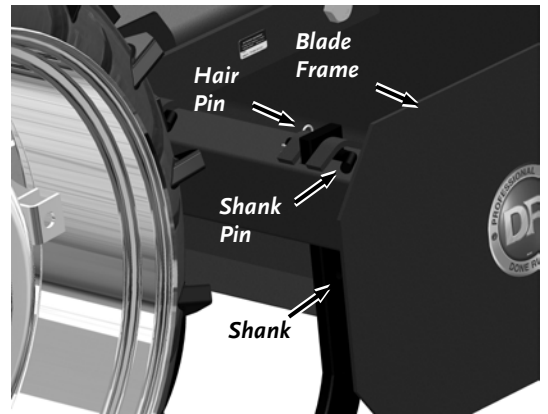

Figure 12
1. Remove the Wire Hair Pin and Shank pin that hold the Shank to the Blade Frame (**Figure 12**). Slide the Shank up or down to adjust the scarifying tooth penetration depth and Secure with the Shank with the Shank Pin and Wire Hair Pin. Be sure to keep all of the Shanks at the same Depth
1. Remove the Wire Hair Pin and Shank pin that hold the Shank to the Blade Frame (**Figure 12**). Raise the Shanks to the highest position and secure the Shank with the Shank Pin and Wire Hair Pin. You can also fully remove the shanks and store the Shanks and mounting hardware together.
1. Remove the Wire Hair Pin and Shank Pin that hold the Shank to the Blade Frame (**Figure 12**). Raise the shanks to the highest position and secure the Shank with the Shank Pin and Wire Hair Pin. You can also fully remove the shanks and store the Shanks and mounting hardware together.